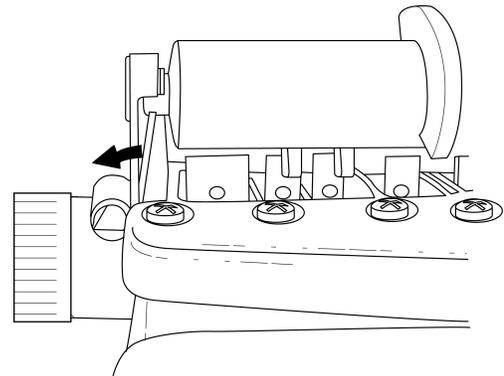

Figure 10
4. Remove the camshaft by carefully pushing the securing tab, located at the rear of the camshaft, away from the camshaft until the tab disengages from the camshaft. Push the back of the camshaft down and out to the inlet side of the valve (Figure 10).